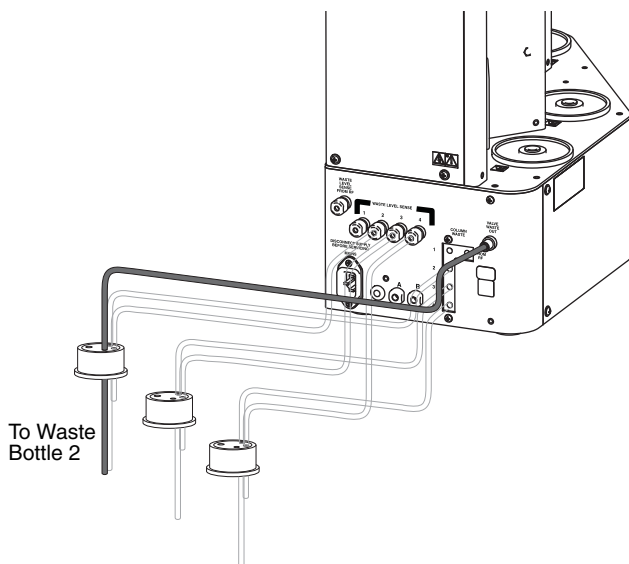

Figure 4-10 Valve Waste Out routed to Channel 2
8. The post-run valve cleaning fluids share a common port for channels 2 through 4. Select the 48 inch (120 cm) length of black tubing from the accessory package and connect it to the Valve Waste Out bulkhead fitting on the Rf 4x module. Route the other end of this tubing to one of the waste bottles. (The channel 2 waste bottle is shown in Figure 4-10.) You can alternatively route it to a container other than those used for channels 2 through 4, however the system will not be able to detect the level and prevent overfilling.